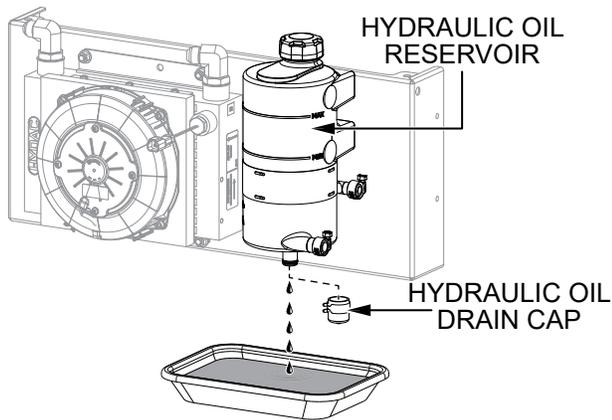

Figure 40. Draining Hydraulic Oil
1. Place an appropriate container beneath the hydraulic oil reservoir (Figure 40) to catch the hydraulic oil as it drains.
2. Remove the hydraulic oil drain cap (Figure 40) and allow the hydraulic oil to drain completely from the reservoir.